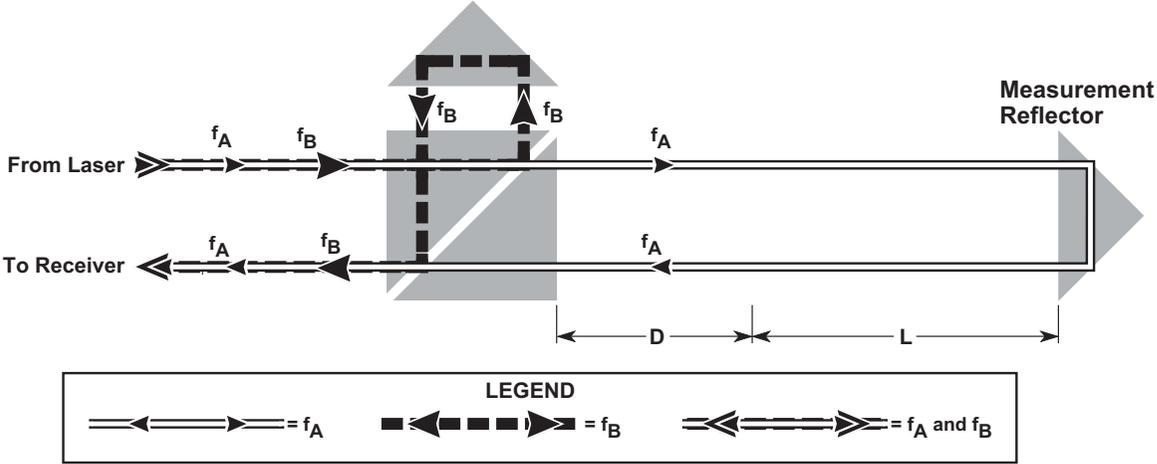

Figure 52 Deadpath caused by unequal lengths from initial point
Figure 52(A) shows the unequal path lengths for a conventional linear interferometer. The deadpath length is designated as “D”. In this diagram, the reference component is  $f_B$ , and the measurement component is  $f_A$ . The  $f_A$  optical path is longer than the  $f_B$  path, by “D”. Assume that the measurement reflector, a cube-corner in this example, moves the distance “L” (see Figure 52(B) to a new position and comes to rest.